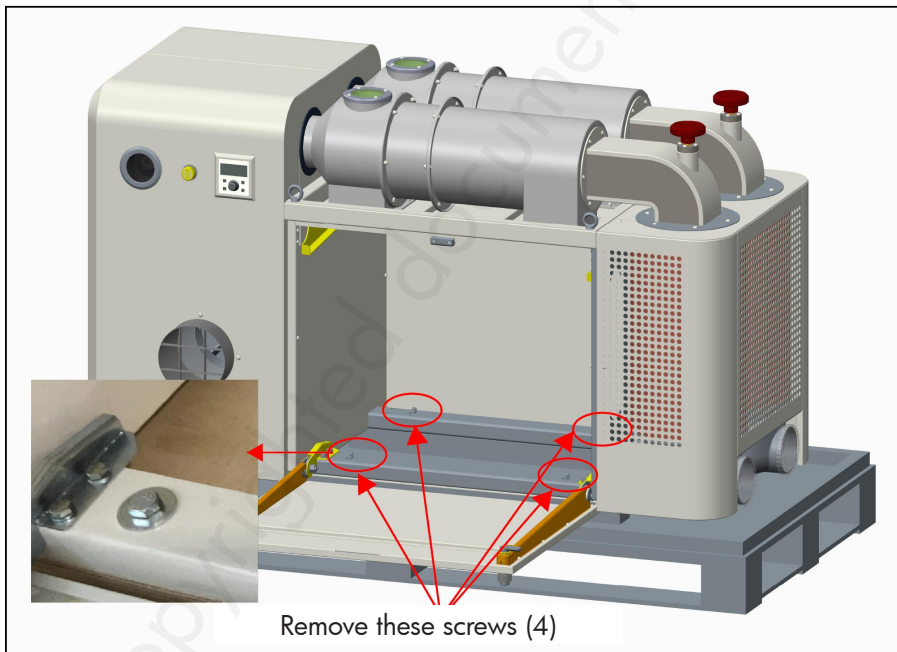

Figure 7
Step 1: As on figure 7 indicated, you can find four Hex head screws at the bottom, remove these screws.